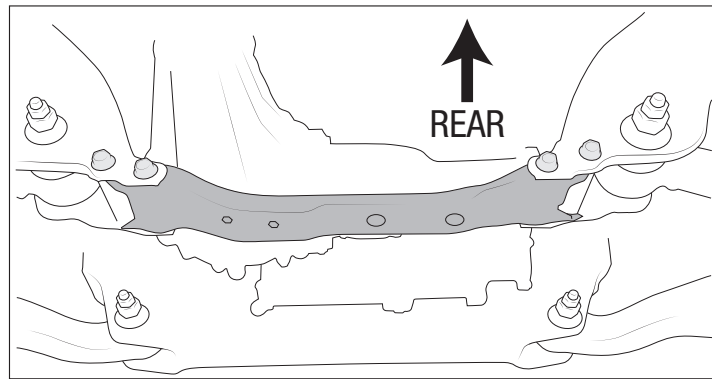

Figure 1
20. Remove rearward front suspension cross-member and hardware and discard (fig. 1).